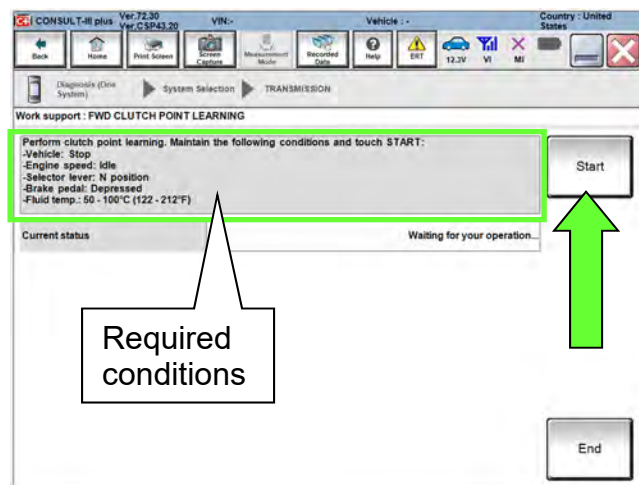

Figure 188
- Confirm that all of the required conditions indicated in Figure 188 are being met.
180. While maintaining all conditions shown in Figure 188 and the “Current status” indicates “EXECUTING”, shift the CVT into **D** and then wait until the Current status indicates “COMPLETED”.